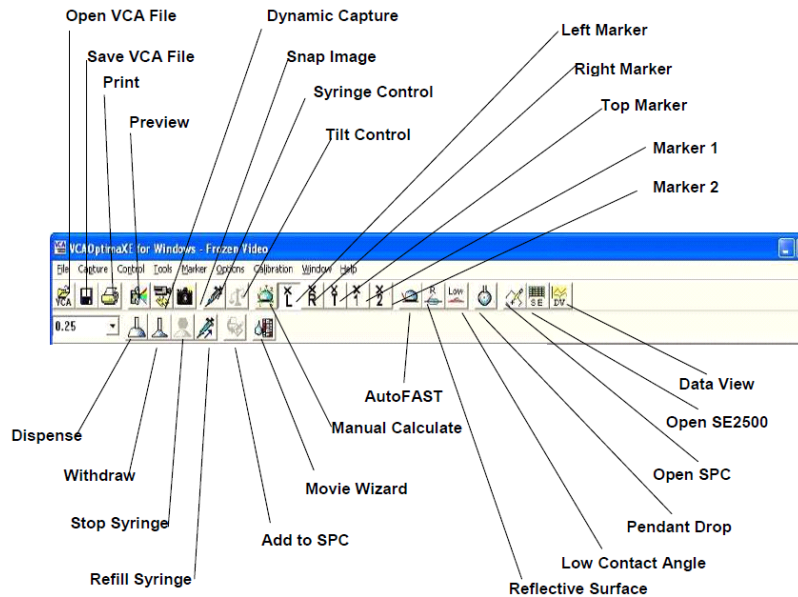

Figure 4: Software interface.
- On the computer desktop, double click the shortcut of VCA-OPTIMA™ for Windows to open the software. The software interface is shown in Figure 4.
- If you want to calculate the surface energy, click “SE2500” shown in Figure 4. You will see the table as shown in Figure 10. Here you may choose the desired substrate and liquid. You need to input the measured contact angle and the average and standard deviation will be calculated automatically.